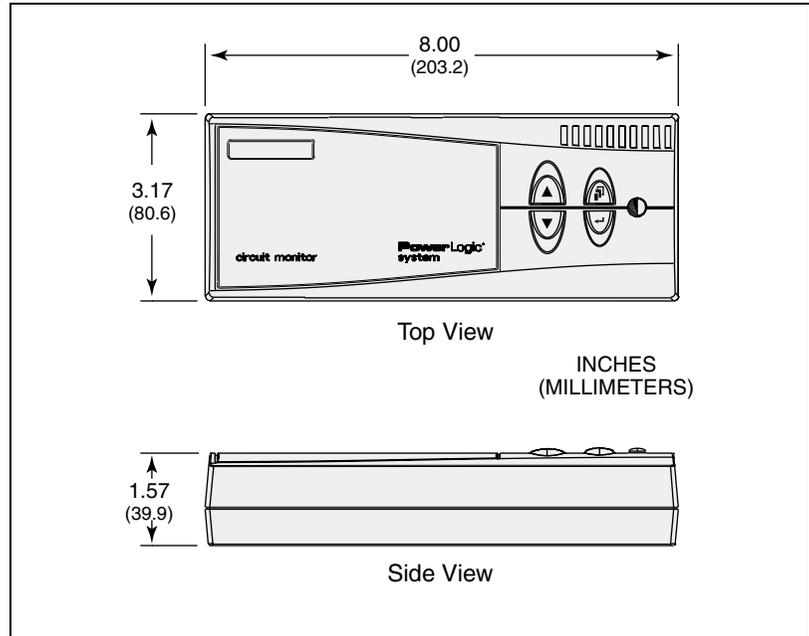

Figure 4-7: Display dimensions
- Mount the display in a horizontal, upright position (as illustrated in the top view in Figure 4-7).